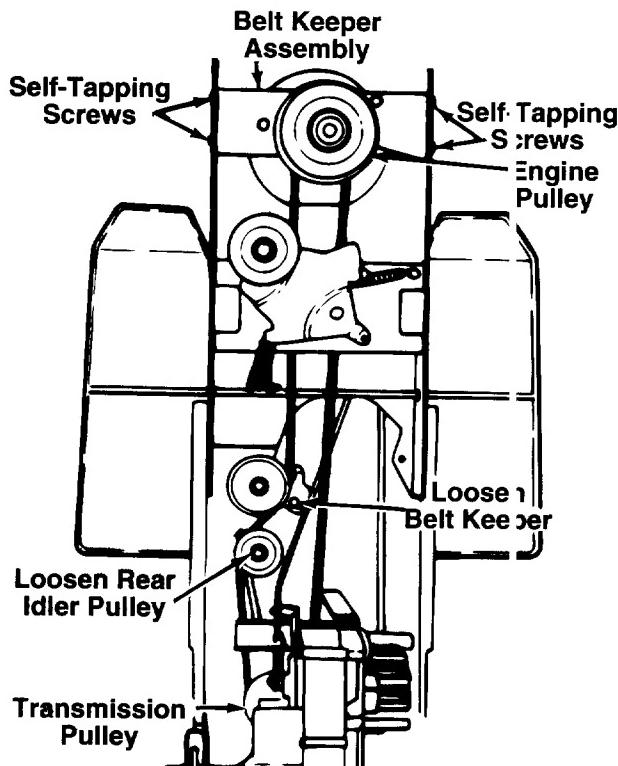

FIGURE 29.
## DRIVE BELT (See figure 29)
4. Remove the four self-tapping screws which hold the belt keeper assembly to the frame at the engine pulley. Push the belt keeper assembly forward, out of the way. See figure 29.